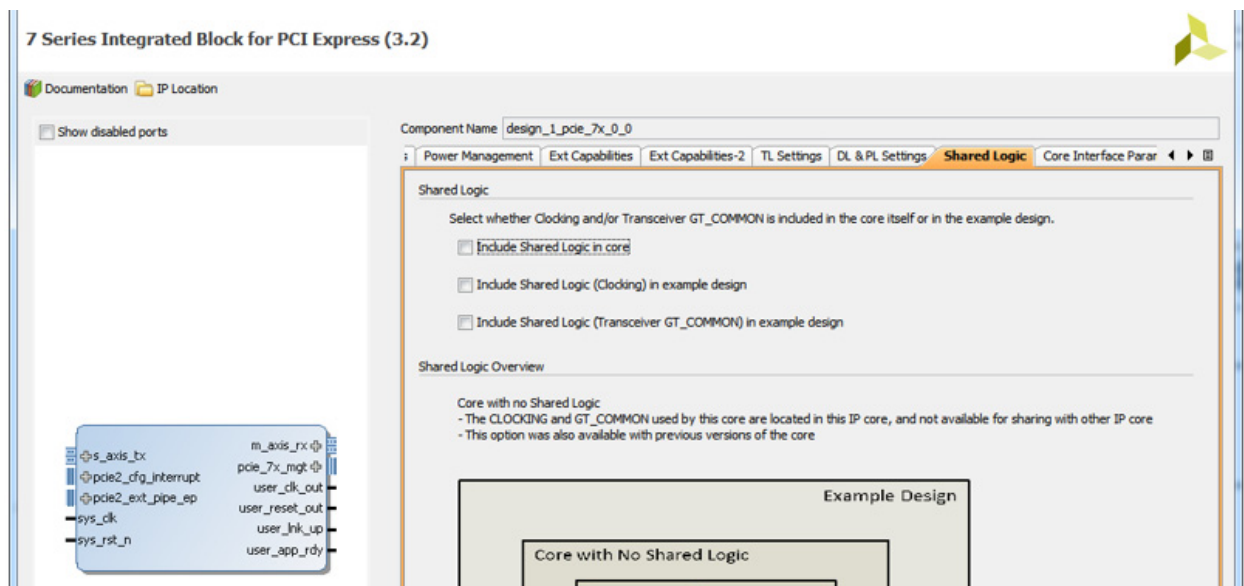

Figure 8: 7 Series Integrated Block for PCIe - Shared Logic Settings
11. It is important to check the **Shared Logic** tab (see Figure 8) and ensure that none of the options are selected. If any of the options are selected, you must ensure that the shared logic gets added to the IPI design, and connected to the PCIe block.